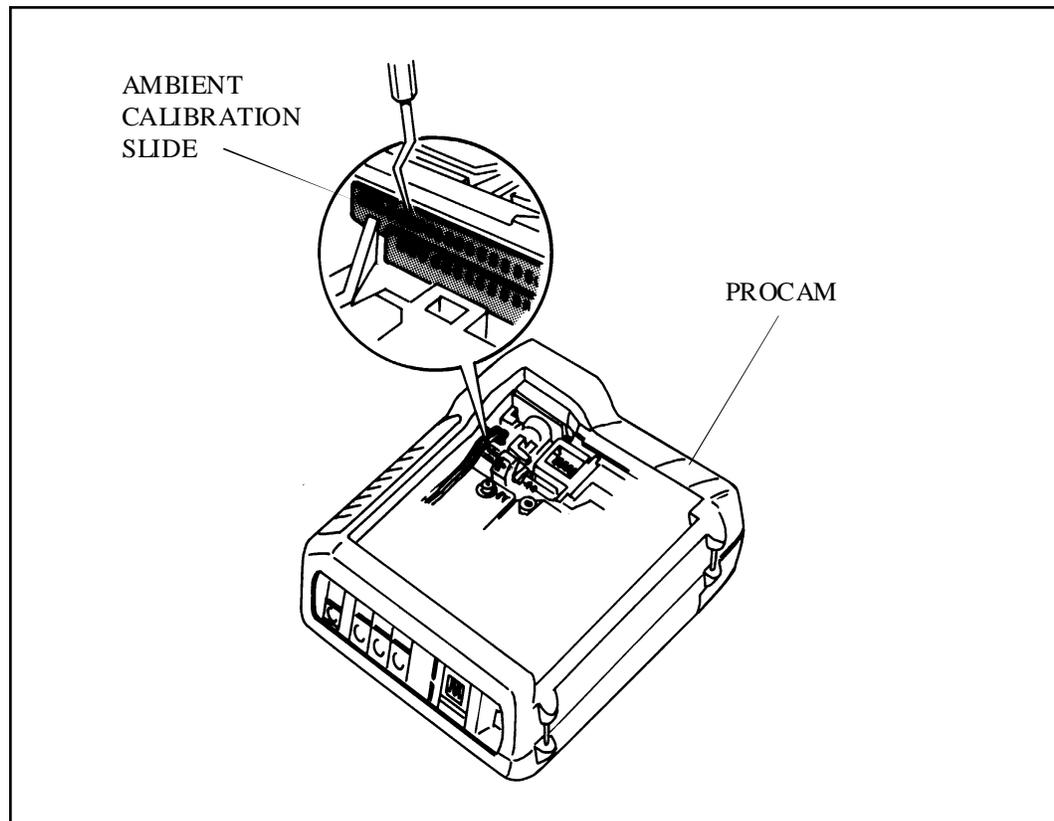

Figure 2-5. Adjusting Ambient (Visible Light) Exposure Calibration Slide
2. If the Ambient Exposure Test readings are too low, use a dental pick and slide the Ambient Calibration Slide (Figure 2-5) to the right, in proportion to the amount the reading is too low.
3. If the Ambient Exposure Test readings are too high, use a dental pick and slide the Ambient Calibration Slide (Figure 2-5) to the left, in proportion to the amount the reading is too high.